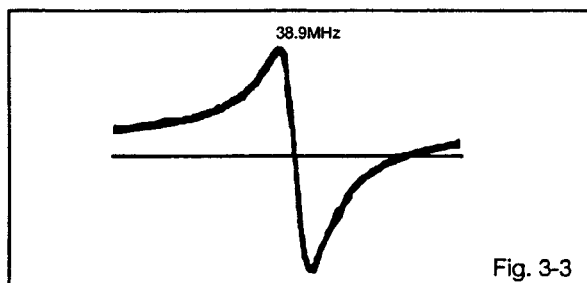

Fig. 3-3
3. Adjust **L6012** until the waveform marker (38.9MHz) becomes as shown in **Fig. 3-3**.